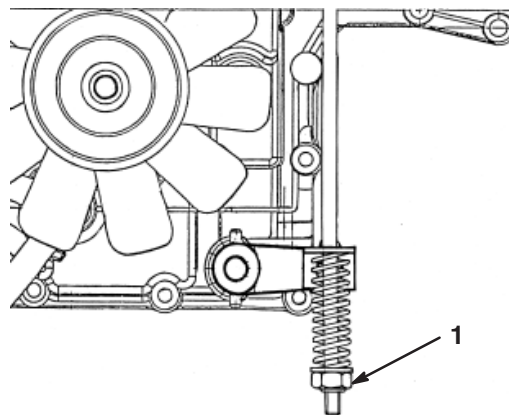

Figure 21
The brake is located on the right side of the rear axle, inside the rear tire (Fig. 21).
3. Turn the brake adjusting nut clockwise until you cannot push the tractor (Fig. 21).